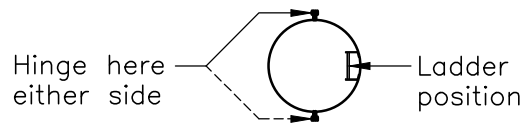

Fig.2
8. For all other covers the orientation should be so that the cover hinge is at 90 degrees from the ladder, Either side. ( Refer Fig 2 )
5. For all other covers the orientation shall be so that the cover hinge is at 90 degrees from the ladder, either side. ( Refer Fig.2 )